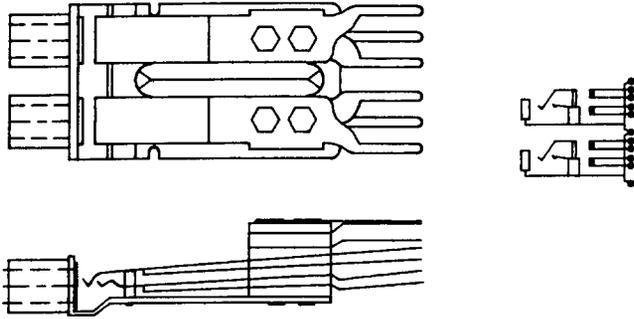

Fig. 4—654AM Jack
2.04 654AM: The 654AM jack is a singly-mounted, 3-conductor, twin-type jack (Fig. 4) for mating with a 338- or similar-type twin plug. Each jack's tip and ring elements contains an isolating (break) contact. All terminals are equipped for solderless wrap connections, and the frame has one centrally located mounting hole. This jack is used on the DSX1 test jack assembly.